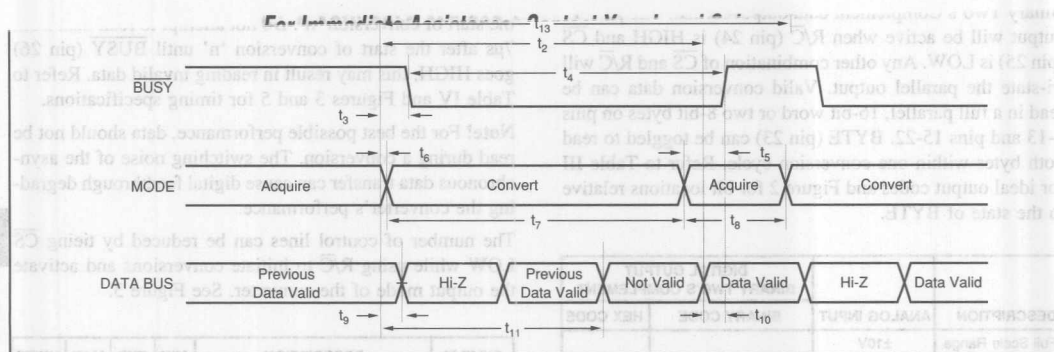

FIGURE 3. Conversion Timing with Outputs Enabled after Conversion (\overline{CS} Tied LOW.)
Table II for a summary of \overline{CS} , $\overline{R/C}$, and $BUSY$ states and Figures 3 through 5 for timing diagrams.
NOTE: (1) See Figures 3 and 4 for constraints on data valid from conversion "n-1".
After conversion 'n' is completed and the output registers have been updated, \overline{BUSY} (pin 26) will go HIGH. Valid data from conversion 'n' will be available on D15-D0 (pin 6-13 and 15-22). \overline{BUSY} going HIGH can be used to latch the data. Refer to Table IV and Figures 3 and 5 for timing specifications.
After conversion 'n' has been initiated, valid data from conversion 'n-1' can be read and will be valid up to $7\mu s$ after the start of conversion 'n'. Do not attempt to read data from $7\mu s$ after the start of conversion 'n' until \overline{BUSY} (pin 26) goes HIGH; this may result in reading invalid data. Refer to Table IV and Figures 3 and 5 for timing specifications.
The number of control lines can be reduced by tying \bar{CS} LOW while using R/\bar{C} to initiate conversions and activate the output mode of the converter. See Figure 3.